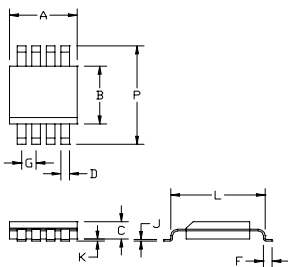

**Figure 1**
- SMDA Peak Pulse Power: 300 watts (Fig. 1 and 2)
- SMDB Peak Pulse Power: 500 watts (Fig. 1 and 2)